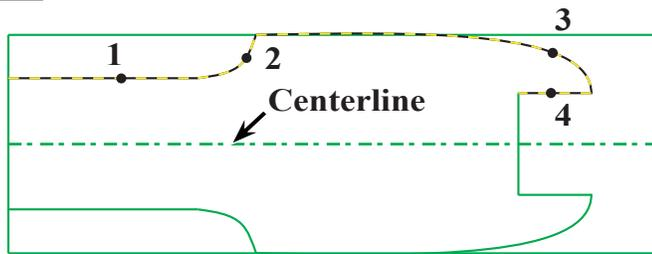

Fig. 14
Step 2. Click **splines and lines** and click **End Selection** (ENTER), Fig. 14.
Click **centerline**, Fig. 14